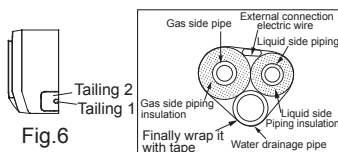

Fig.6
1. When routing the piping and wiring from the left or right side of indoor unit, cut off the tailings from the chassis in necessary(Show in Fig.6)